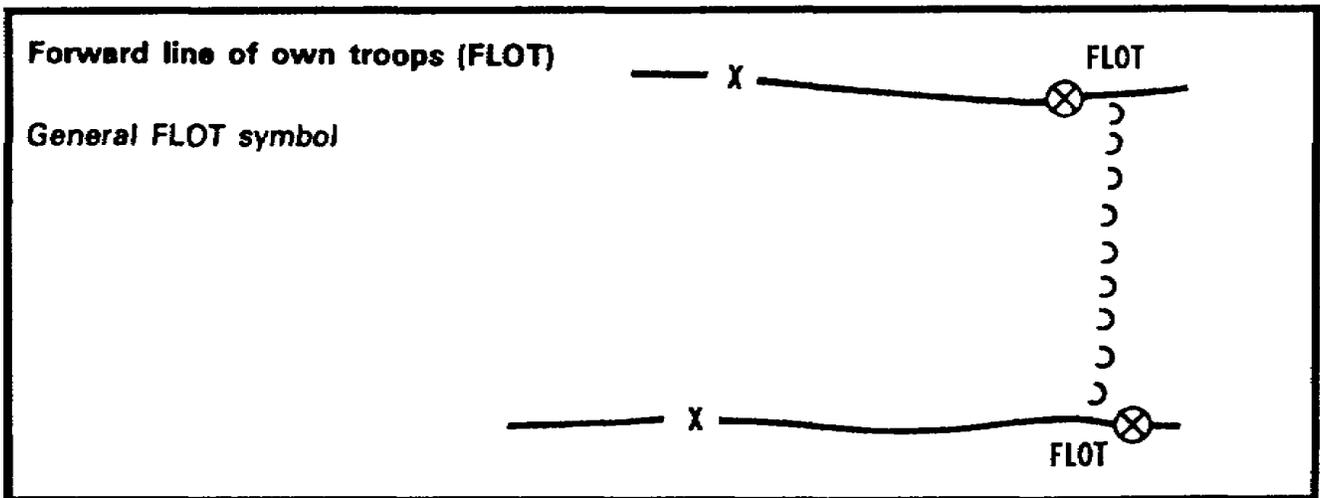

Figure 1-14. FLOT line
b. Lines (App B, p B-33). Lines connect two given points, either directly or by means of interconnecting points. A line must be determined by at least two grid references. Figure 1-14 shows a graphic illustration of a forward line of own troops (FLOT).